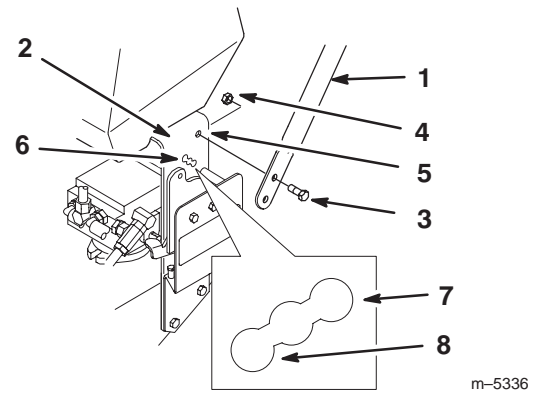

Figure 3
1. Align upper handle with upper mounting holes in rear frame (Fig. 3).
2. Secure each upper mounting hole with a flange bolt (3/8 x 1 in. (26mm)) and flange nut (Fig. 3). Torque bolts to 25 ft. lbs. (34 N.m).
3. Select high, medium or low position for the lower mounting hole (Fig. 3). This allows the upper handle to be adjusted to the user's height preference.
4. Secure each lower mounting hole with a flange bolt (3/8 x 1 in. (26mm)) and flange nut (Fig. 3). Torque bolts to 25 ft. lbs. (34 N.m).